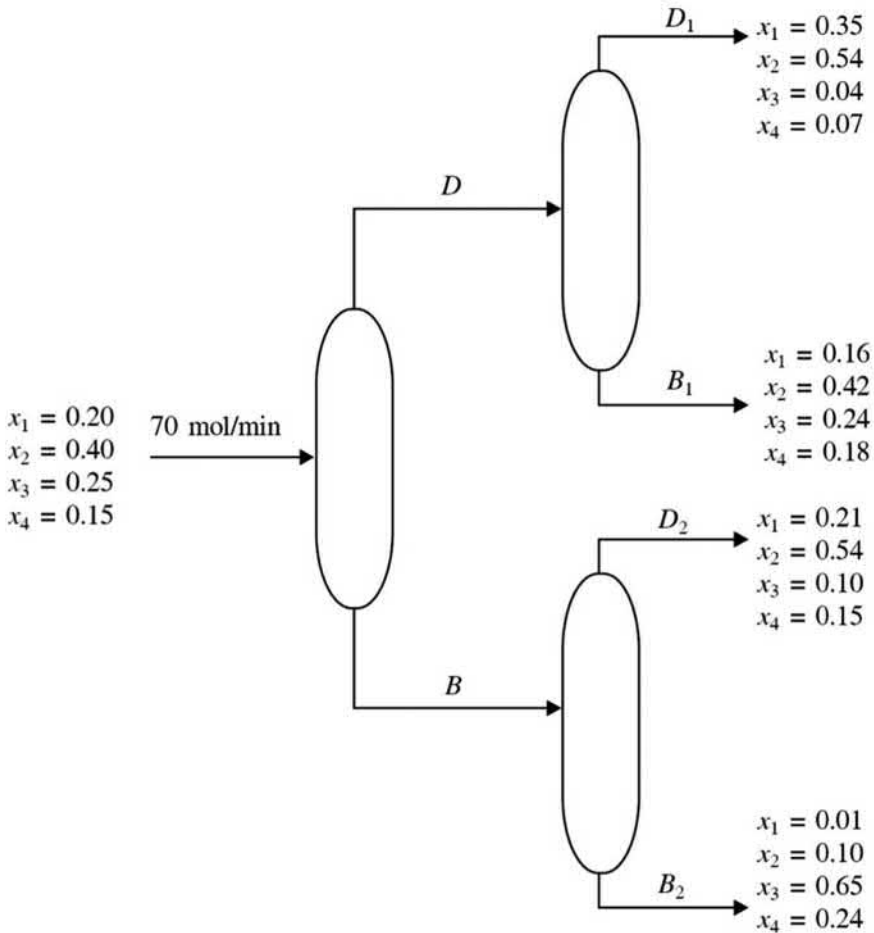

FIGURE 2.11 Sequence of distillation columns.
11. The three distillation columns shown in Figure 2.11 are used to separate benzene (1), toluene (2), styrene (3), and xylene (4). Determine the compositions of streams *B* and *D* and molar flow rates of streams *D*1, *B*1, *D*2, *B*2, *B*, and *D*.